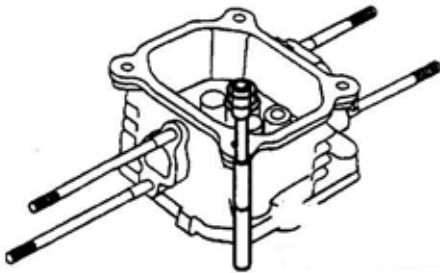

Figure 4-20: Valve Guide Driver Shown
- See Figure 4-20. for valve seat width examples.